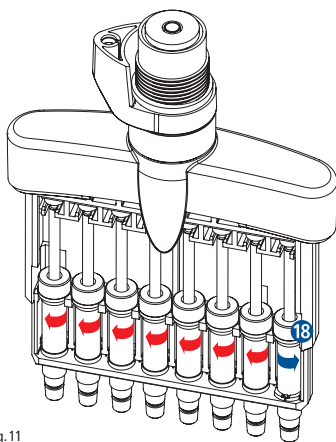

Fig. 11
- The piston unit 18 is released from the piston frame by turning it (Fig. 11).